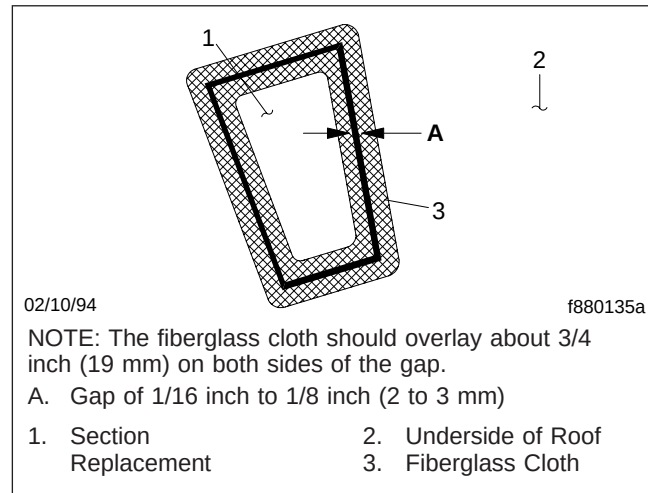

Fig. 11, Fiberglass Cloth Overlay
13. With a razor-blade knife, cut sections of woven fiberglass cloth to fully cover the gap between the cutout and the section replacement, all the way around the damaged area. The cloth should overlay about 3/4 inch (19 mm) on both sides of the gap; see Fig. 11.